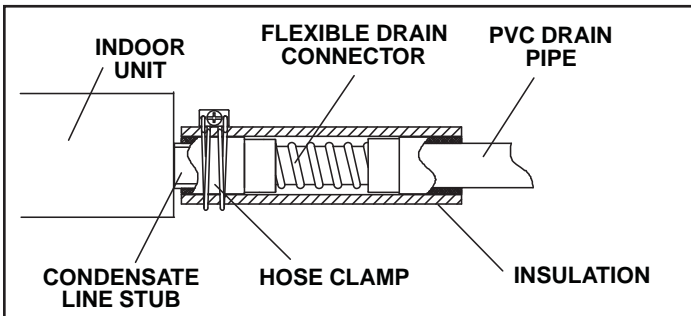

Figure 9. Condensate Drain Connection
1. Use the provided hose clamp to secure the provided flexible condensate drain connector and insulating sleeve to the drain line stub on the side of the indoor unit. See figure 9.